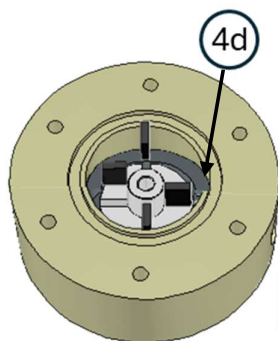
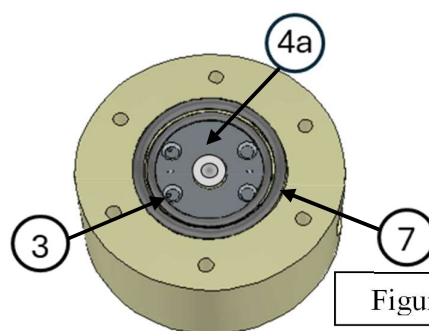

Figure 13b
Figure 13c
- 6-Position the four graphite vanes (4d) in the rotor millings (Figure 13b); then insert the graphite front disc (4a) with the O-ring seat facing outward (Figure 13c), then place the O-rings(3) and (7).